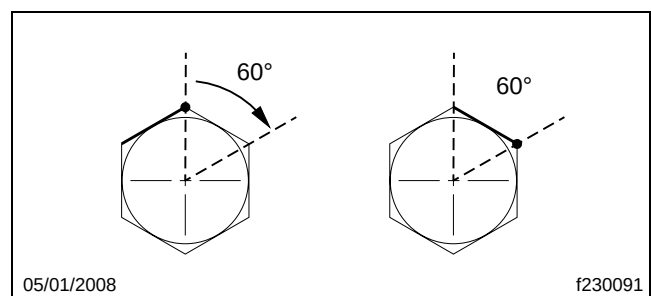

Fig. 8, Turning the Fitting One Flat (60 degrees)
38. Attach the lines to the plumbing adaptors on the steering gear, while ensuring that the lines will not touch the axle or each other once installed. Snug the connection with a wrench to ensure the fittings are seated, which is equivalent to approximately 2 lbf·ft (3 N·m). Then, using a backup wrench to keep the adaptors from turning, tighten the return and supply hoses by 1 flat of the tube nut (60 degrees). See **Fig. 8**.